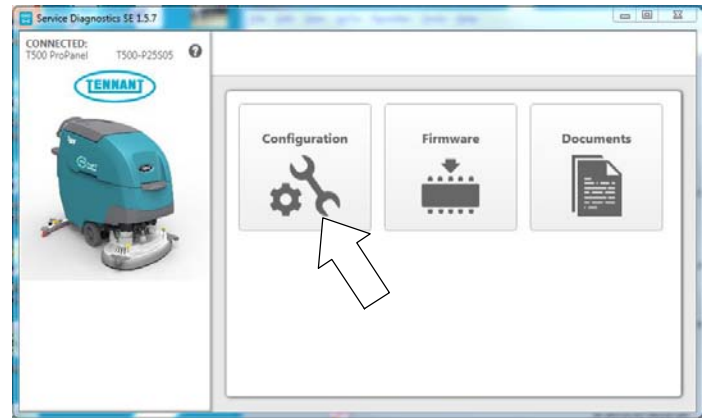

Fig. 40
3. From the Home screen, select the "Configuration" button (Figure 40).
2. If firmware updates are required, the "Firmware" button on the home screen will be highlighted in yellow as shown (Figure 40). Press the button to update the machine's firmware.